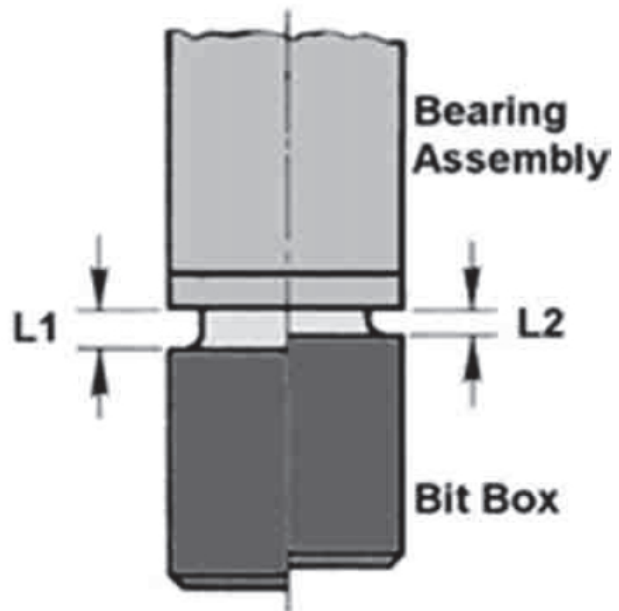

Figure 12
1. While out of the hole and in front of the rig, rotate the bit by engaging pump pressure for a few bit rotations, then shut off the pump. Referencing Figure 12, take a measurement (L1) between the bottom of the bearing housing and the top of the bit box.